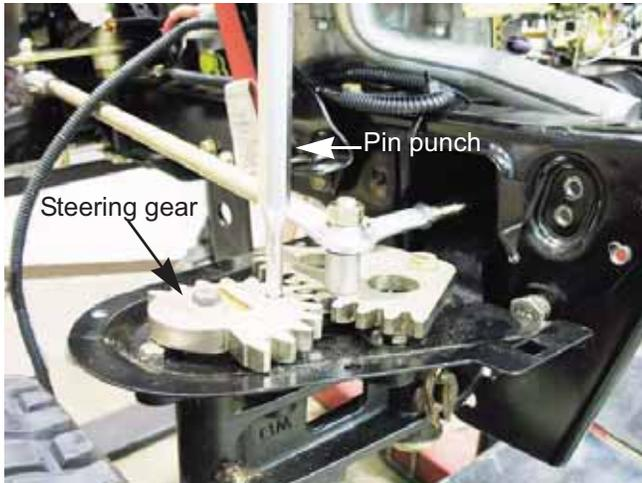

Figure 6A.82
4. Insert a 5/16" pin punch into one of the alignment holes to lock the steering gears in place. See Figure 6A.82.